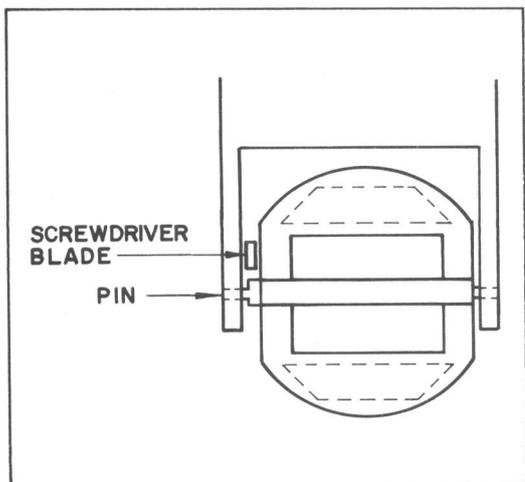
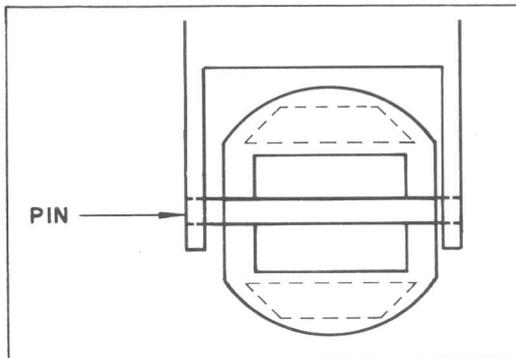

Figure 10A. Removal of MK 515 paddlewheel pin.
Figure 10B. Removal of MK 415 paddlewheel pin.
2. For the MK 515, using a small flat-bladed screwdriver, gently pry one of the paddlewheel mounting ears away from the pin (see Figure 10A). The MK 415 pin does not have a shoulder and may be pressed straight out (see Figure 10B).